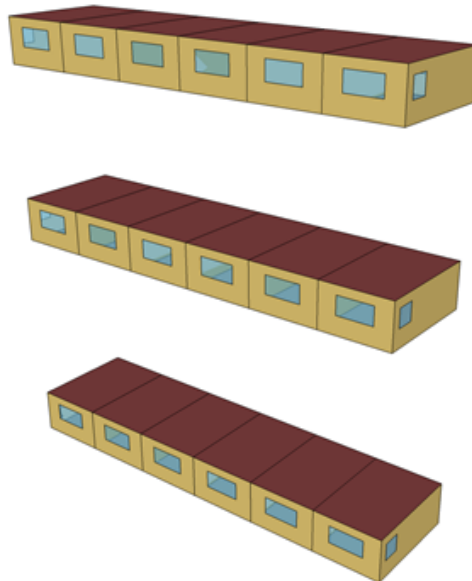

Fig. 11 Multistory with cloned middle zones.
- Multistory 2 – the building (with cloned middle zones) shown in Fig. 11.